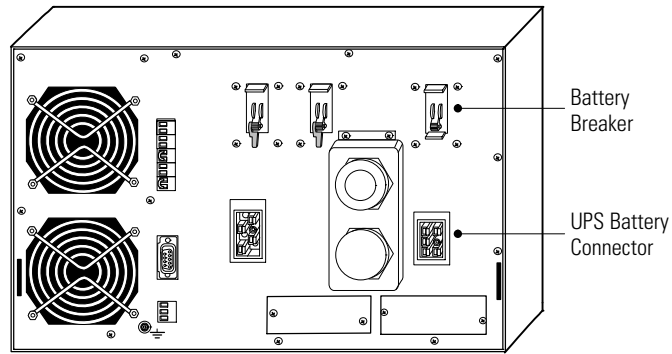

Figure 15. BladeUPS Module Rear Panel
2. Verify that the BladeUPS battery breaker is open (O), as shown in Figure 15 on page 27.
2. Verify that the BladeUPS battery breaker is open (O), as shown in Figure 15.
6. Close the BladeUPS battery breaker () (see Figure 15).